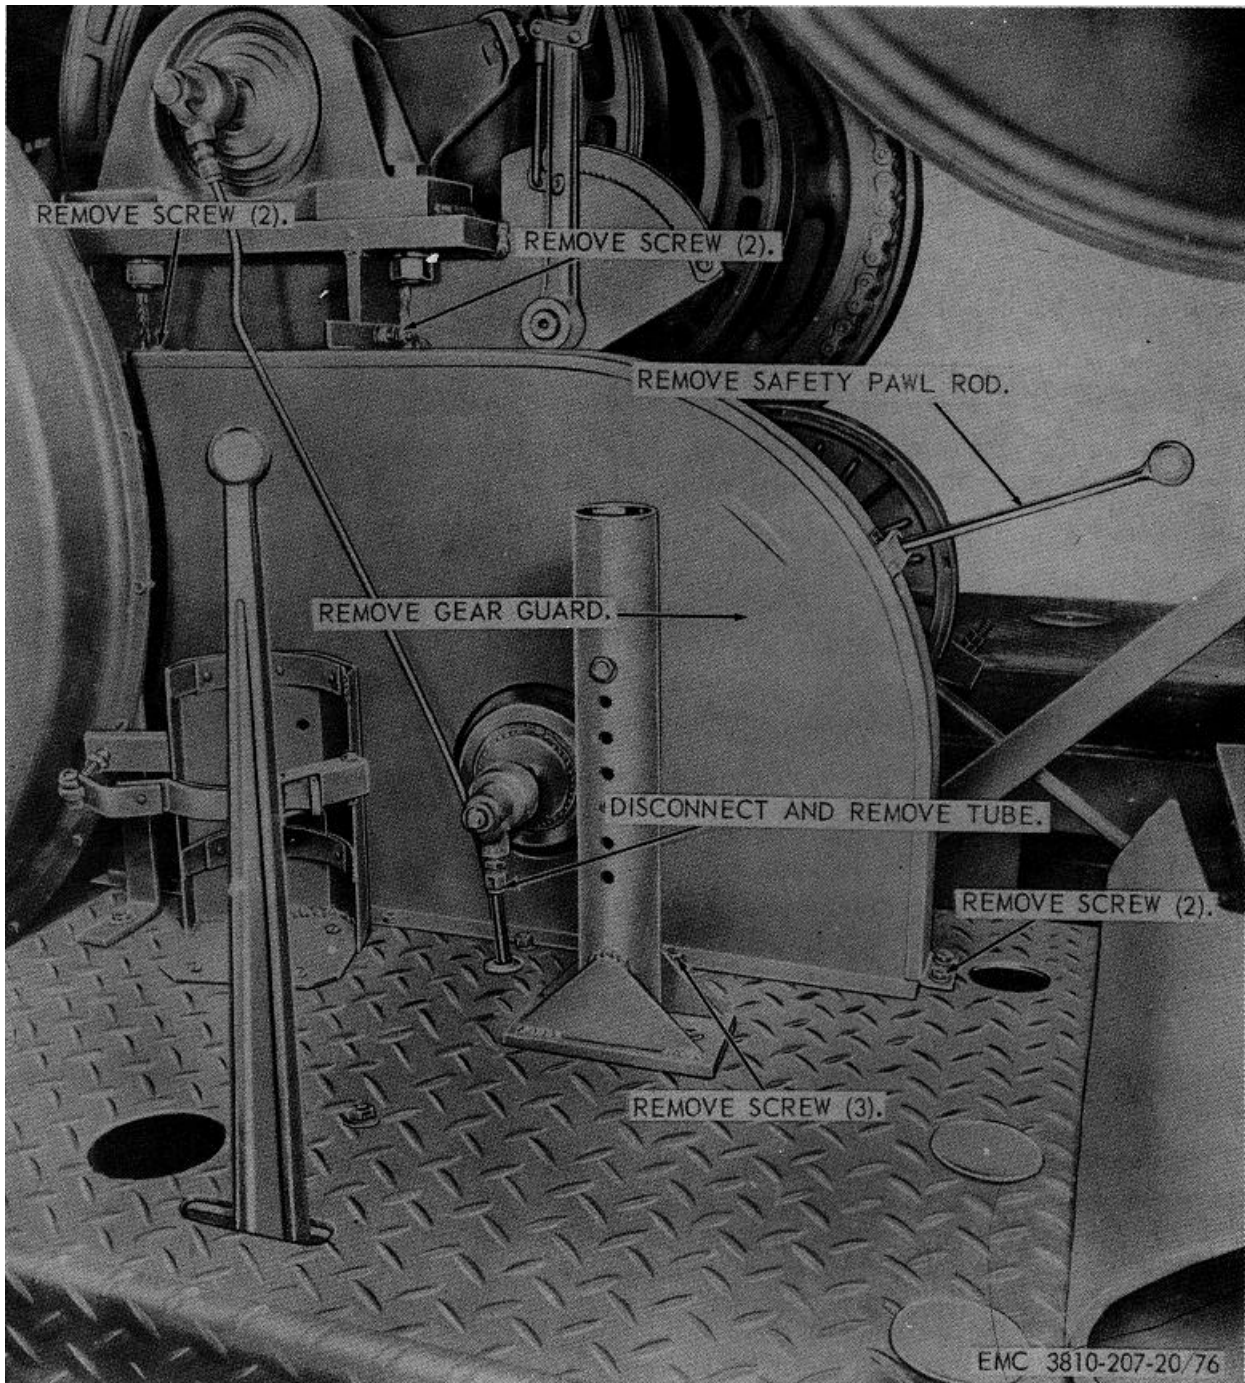

Figure 76. Swing gear guard, removal and installation.
Adjust the power transfer chain assembly as instructed on figure 76.
- (1) Remove the boom hoist safety pawl rod from gear guard (par. 155).
- (2) Remove the swing gear guard as instructed on figure 76.
- (1) Clean all parts with an approved cleaning solvent.
- (2) Inspect the guard for breaks, bends, and other damage. Repair or replace defective guard and hardware.
- c. *Installation.* Install the swing gear guard as illustrated on figure 76.